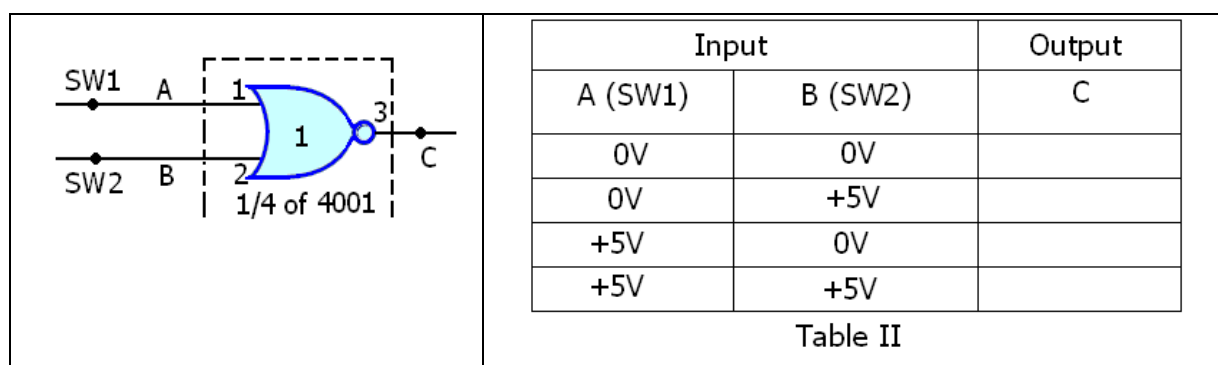

Fig. 2-3
- Wire the circuit shown in Fig. 2-3. The inputs come from SW1 and SW2. You will measure the output voltage C at pin 3 of the 4001 IC.